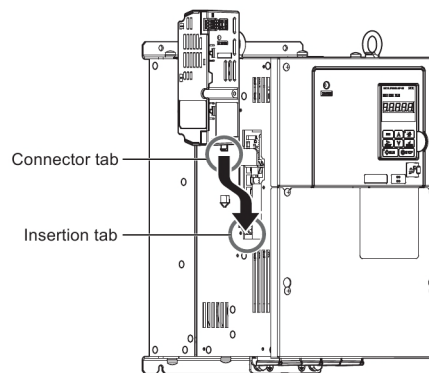

Figure 16: Tab Locations
6. Align the connector tabs on the option with the insertion tabs on the drive as shown in Figure 16.